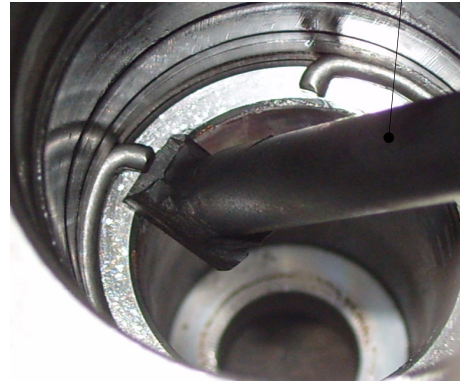

Fig. 2 Dismounting of Locking Ring
- Hook the edge of locking ring and extract the locking ring by tool as shown in fig 2.  91.940